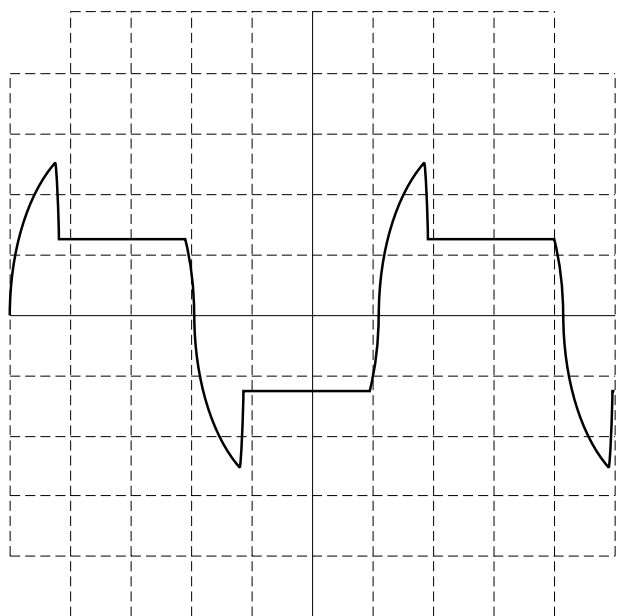

Figure 4. ODEP Limiting Wave Form
**Procedure:** Load the amplifier to 4 ohms on each channel. Inject a 60 Hz sine wave and adjust for 35 Vrms at the output. After a few minutes observe a wave form similar to Figure 4. Remove the input signal from both channels and allow the amplifier to cool for a few minutes. Switch the amplifier to Parallel Mono and remove the load from Channel 1. Inject the signal into Channel 1 and observe that ODEP limiting occurs at the output of both channels. Remove the load from Channel 2, and install the load on Channel 1. Again, observe that both channels limit. Return all amplifier controls to standard initial conditions. Remove the fan obstruction.